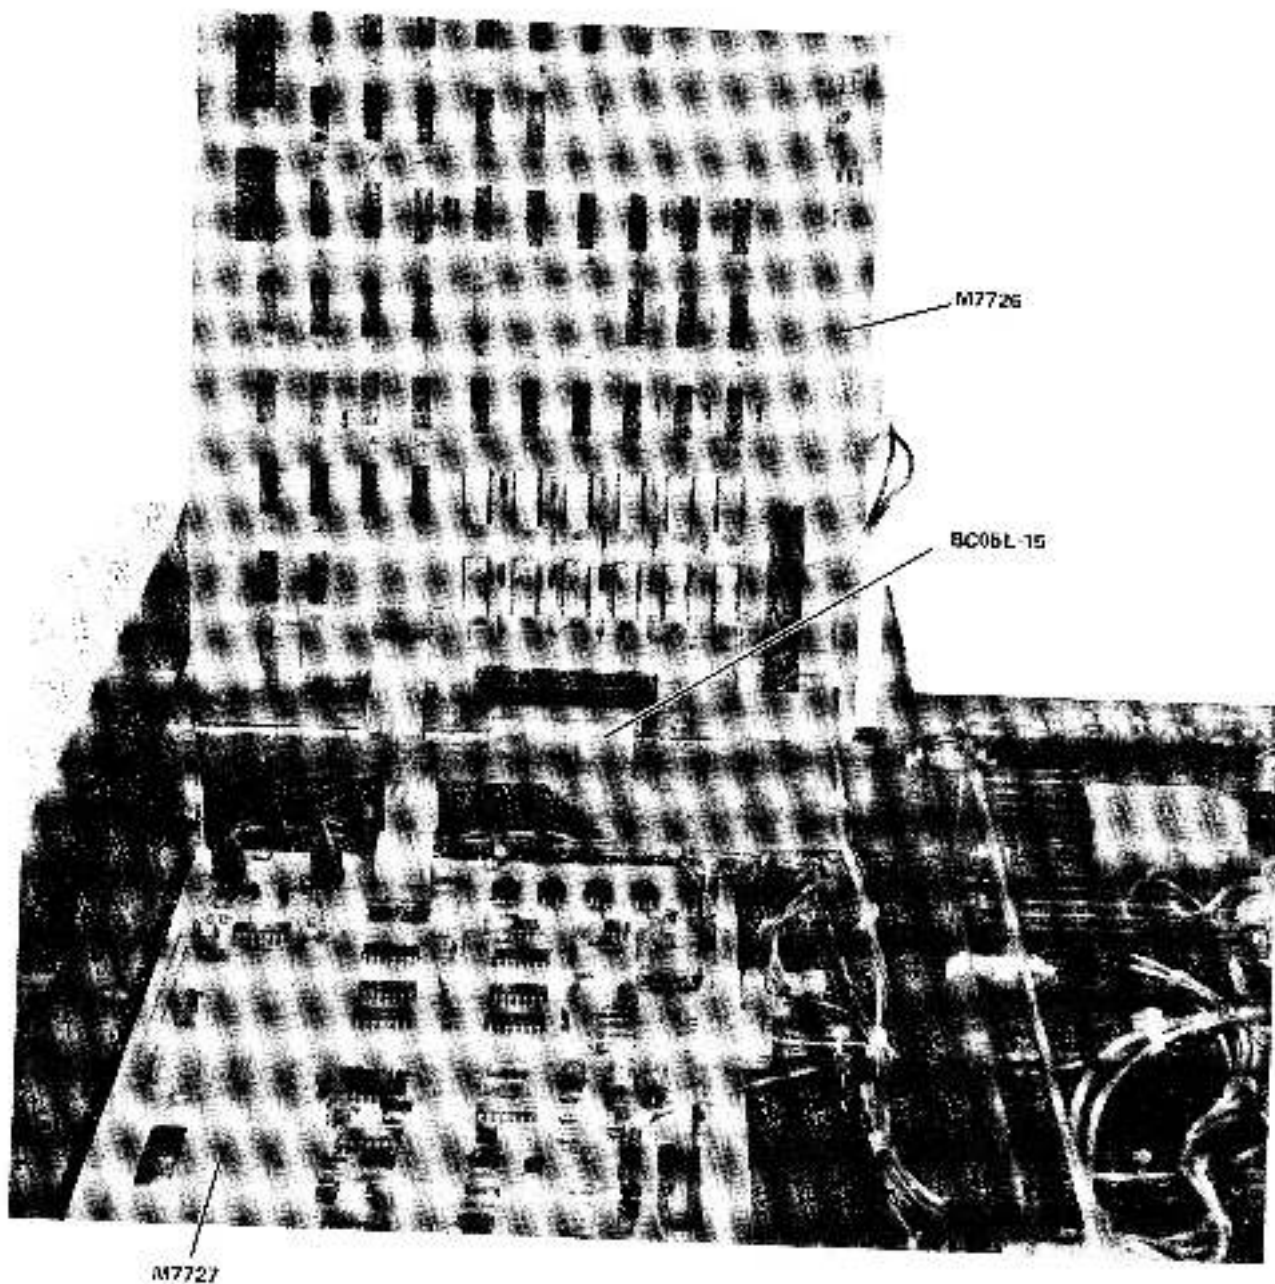

Figure 2-6 Cable Routing, BC051-15
4. Connect the BC05L-15 cable to the M7726 module and route it through the back of the RX01 (Figure 2-6) to the CPU, then connect it to the interface module (RX8E, M8357; RX11, M7846).